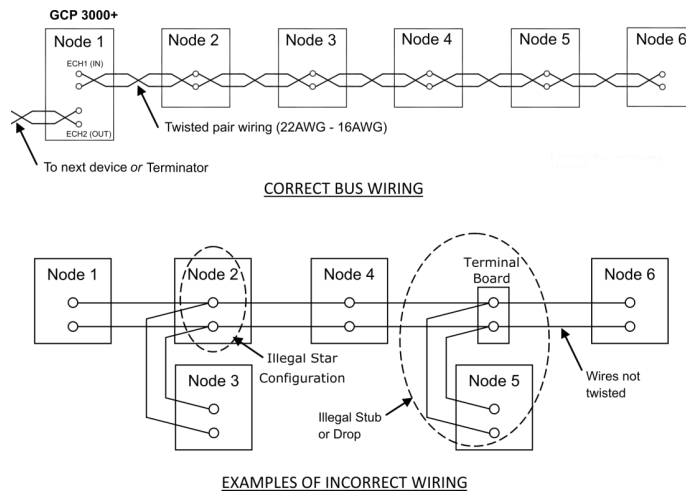

Figure 36 Echelon LAN Bus Wiring
- Each connection (node) must be wired in a daisy chained bus configuration, no drops allowed (see Figure 36).